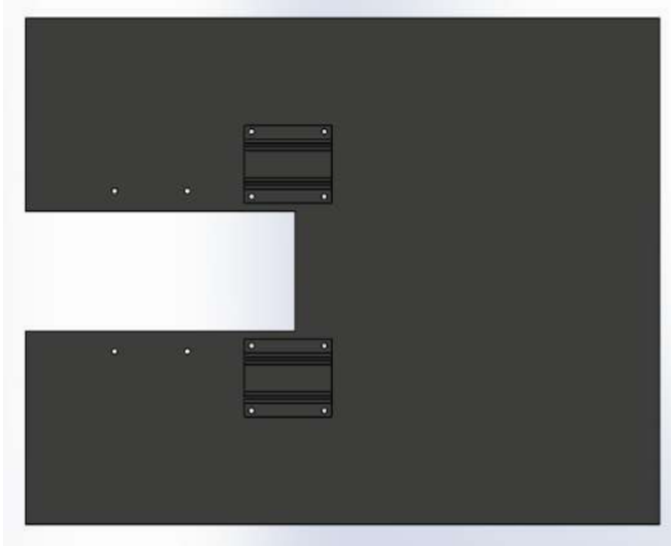

Figure 16: Adding linear slides to assembly
- Using eight M4 screws, attach two linear slides to the bottom of the phantom bed as illustrated in figure 16.